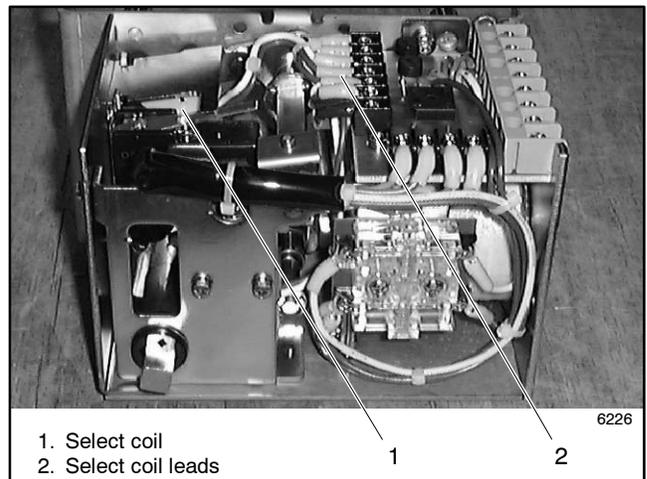

Figure 6-17 Select Coil Connections
1. Note connections and disconnect select coil leads. See Figure 6-17. Cut the cable tie, if necessary.